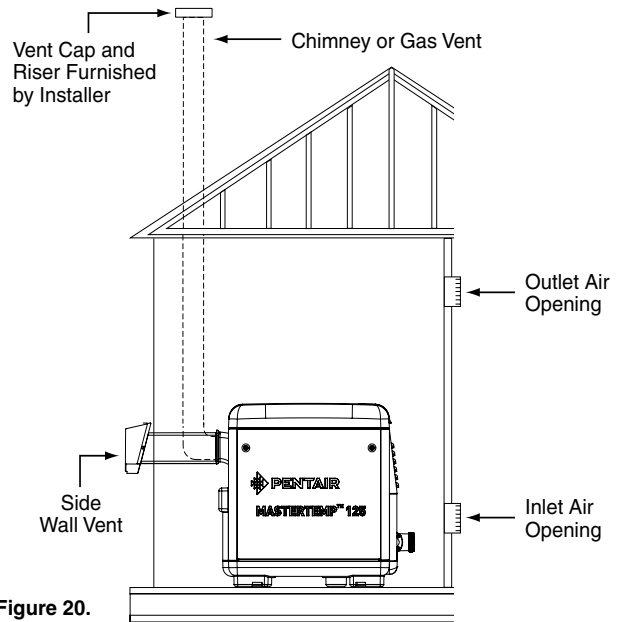

Figure 20.
HORIZONTAL OR VERTICAL VENTING - POSITIVE PRESSURE (See Figures 20, 21, and 22) (Category III)
6. **Vent Termination – Vertical (See Figures 20 and 21),** for height of vent termination above the roof. Use an "A20 approved" vent terminal specified by local and national codes and your manufacturer's instructions. A roof termination must be vertical. In Canada, the Vent Cap location shall have a minimum clearance of 4 feet (1.2M) horizontally from electric meters, gas meters, regulators, and relief openings.